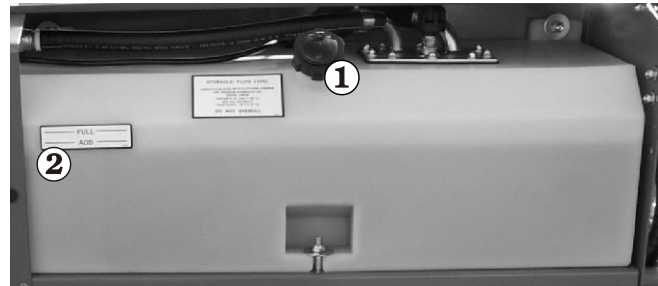

Figure 7.13 - Hydraulic Oil Tank
Check to see that the cap ① is in place and is tight (see Figure 7.13).
Completely lower the platform. The hydraulic oil level should be at the full level according to the gauge € (see Figure 7.13) . If necessary, add hydraulic oil at the Hydraulic oil tank cap. See the Specifications chapter for type and grade of hydraulic oil.